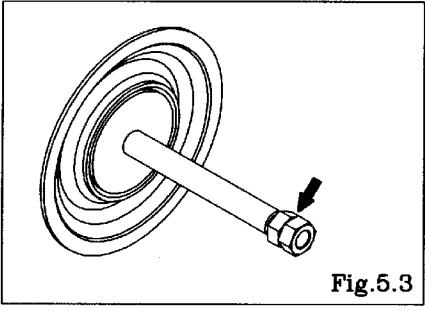

Fig.5.3
- Remove the nuts on the opposite side using the double nut. [Fig.5.3]